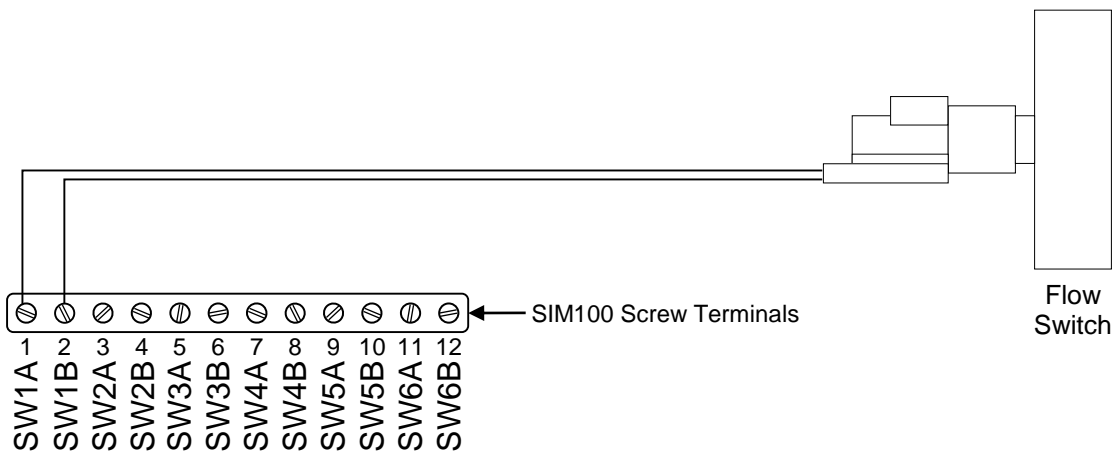

Figure 1 - Wiring Diagram
Please follow these instructions to connect the 10233 to the NMEA 2000 network via a Maretron SIM100 Switch Indicator Module. The wiring diagram appears in Figure 1. The diagram shows a connection to channel #1, but connections to other channels are similar. Please refer to the original manufacturer's instructions packaged with the product for additional details including setting of the switch activation flow rate.
1. Install the two wires from the 10233 to a free switch channel on the SIM100. The two wires are interchangeable. The example in Figure 1 shows the flow switch connected to switch channel 1, terminals SW1A and SW1B.